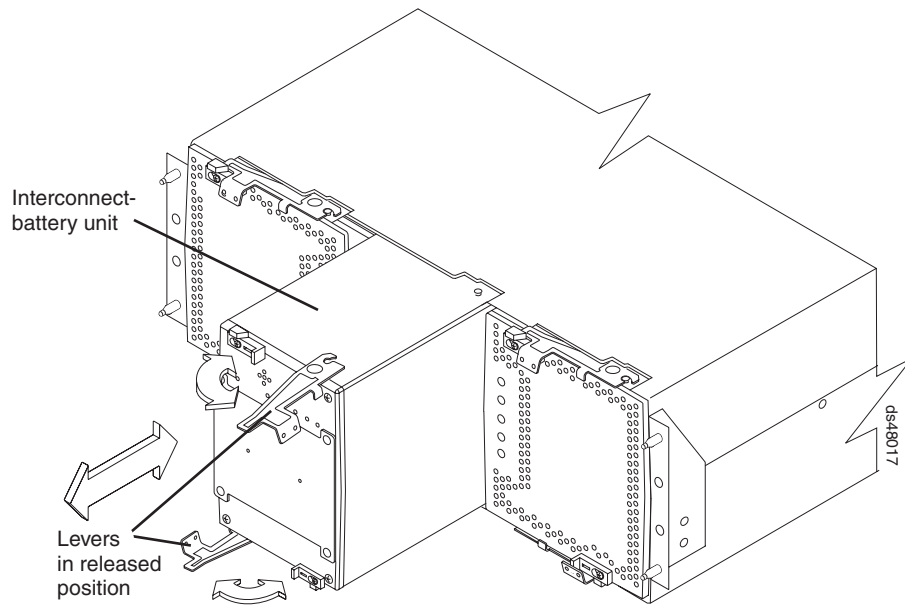

Figure 96. Removing an interconnect-battery unit from the DS4800
7. Unlatch both the top and bottom levers of the interconnect-battery unit and rotate both levers straight out simultaneously to remove the failed interconnect-battery unit. (Figure 96 on page 159 shows the interconnect-battery unit sliding from the storage subsystem chassis.)